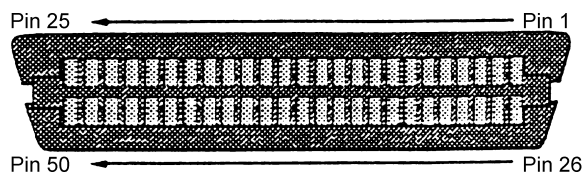

Figure 5 – “U” and “S/T” Interface 50-pin Connectors
Plug the male-ended U interface cable from the network interface block into the 50-pin U interface connector on the rack rear panel. See Figure 5 and Table 2 for connector pin-out.
2. 50-pin connectors – for terminal equipment connection via a punch-down block. Use cables with male connectors. See Figure 5 and Table 2 for connector pinout.